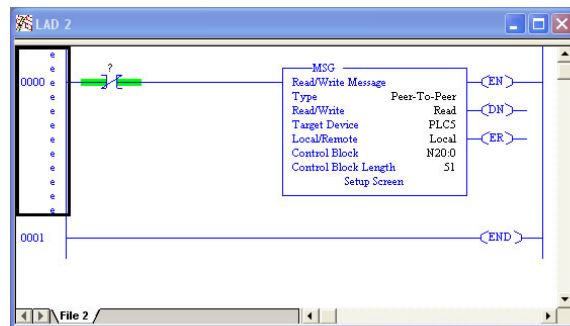

Figure 72: PLC Program after MSG Instruction Configuration
- f) Close the dialog box. At this point, the program should appear as shown in Figure 72.